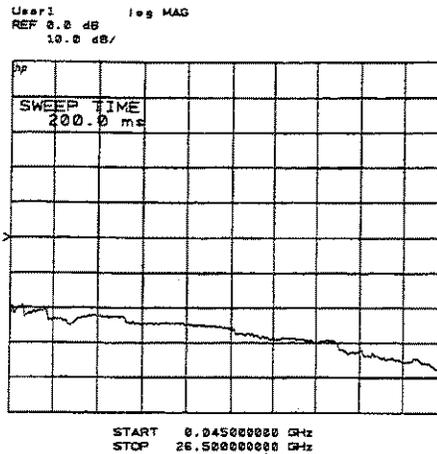

Figure 8. Typical Operator's Check CRT Trace
- b. HP 8350B systems: press **[SWEEP TIME] [2] [0] [0] [k/m]** to set the sweep time to 200 ms. In narrow band systems, the level of the frequency band generated should match the levels shown in Figure 8 for a given frequency.
NOTE: All of the observed traces should decrease from -20 ± 5 dB at 45 MHz to -40 ± 5 dB at 26.5 MHz, similar to Figure 8.
3. Press **[User 1 a1]**, **[User 2 b2]**, **[User 3 a2]**, and **[User 4 b1]** to check the channels indicated. All of the CRT traces should resemble Figure 8.